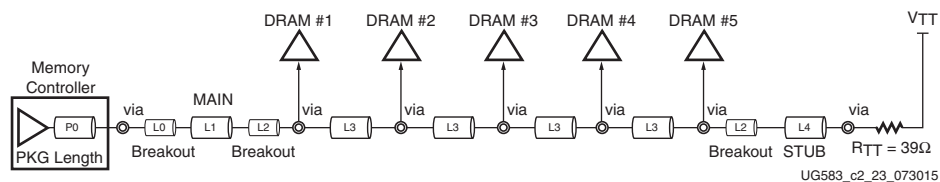

Figure 2-20: Address, Command, and Control Fly-by Termination for DDR4 SDRAM
Figure 2-20 illustrates fly-by topology for address, command, and control signals. Each clock, address, command, and control pin on each SDRAM is connected to a single trace and terminated at the far end.
DDR4 SDRAM clamshell topology utilizes two individual chip select (CS) signals, one for the top layer DRAMs, and one for the bottom layer DRAMs. Those signals should be routed as in the standard fly-by topology as defined in Figure 2-20 and Table 2-11.